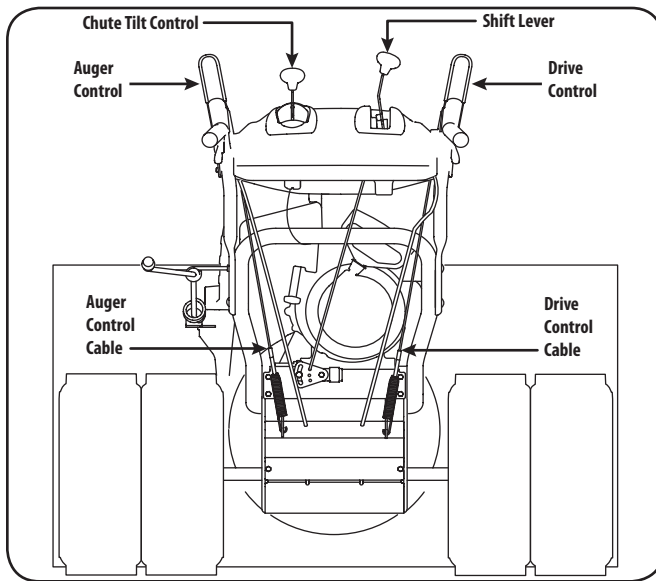

Figure 3-10
When the auger control is released and in the disengaged "up" position, the cable should have very little slack. It should NOT be tight. Refer to Fig. 3-10.
1. With the engine turned off, move the shift lever into sixth (6) position. Refer to Fig. 3-10.
1. From beneath the handle, pull downward on the appropriate cable and unhook the spring found on the end of the cable from its respective actuator bracket. Refer to Fig. 3-10 and 3-11.